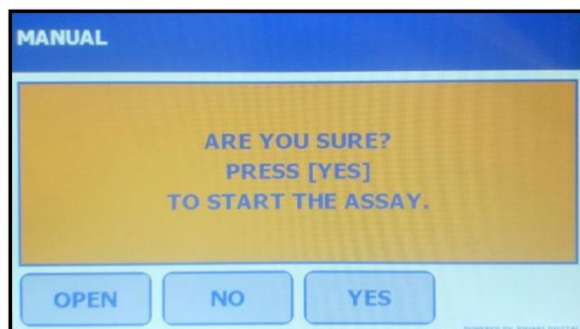

Figure V-10: Confirmation of Program Run
1. To run the program without saving, press [RUN] to initiate the program. The FP-24 5G prompts “ARE YOU SURE? PRESS [YES] TO START THE ASSAY” for confirmation of the program run (Figure V-10).